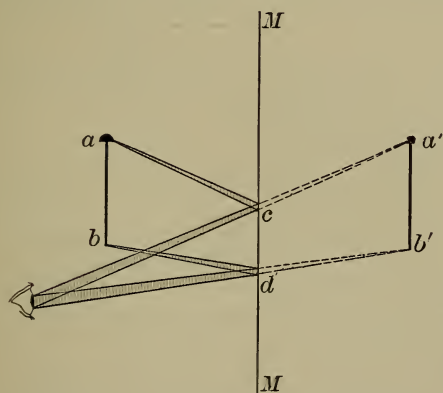

FIGURE 73.—CONSTRUCTION OF AN IMAGE IN A PLANE MIRROR.
**117. Image in a Plane Mirror.**—Figure 73 shows